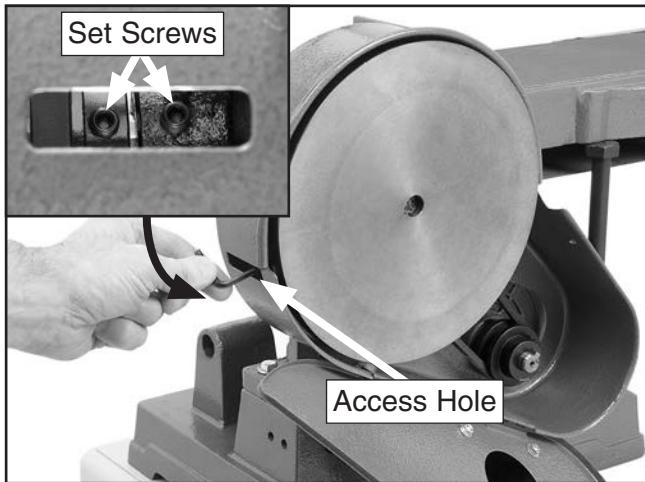

Figure 27. Securing plate to drive shaft.
8. While looking through the access hole on the side of the cover, rotate the plate and tighten each of the set screws to secure the plate to the drive shaft (see **Figure 27**).